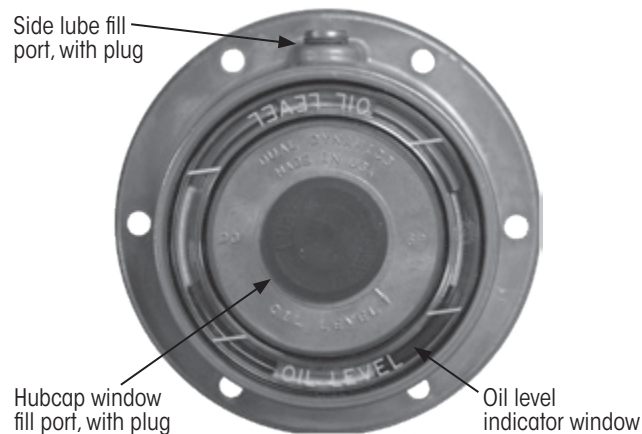

Figure 12: HVS oil hubcap with oil level indicator window
1. Remove fill port plug on the side of the hub (Figure 1 on page 5), hubcap or at hubcap window plug (Figure 12).
NOTE: Not all hubs have a fill port. In this case, oil can only be added through the hubcap side or window lube fill port (Figure 12).
IMPORTANT: The oil level should be maintained to the hubcap full line (Figure 12). Adding oil above the hubcap full line should be avoided.
3. Check oil level at hubcap window (Figure 12).